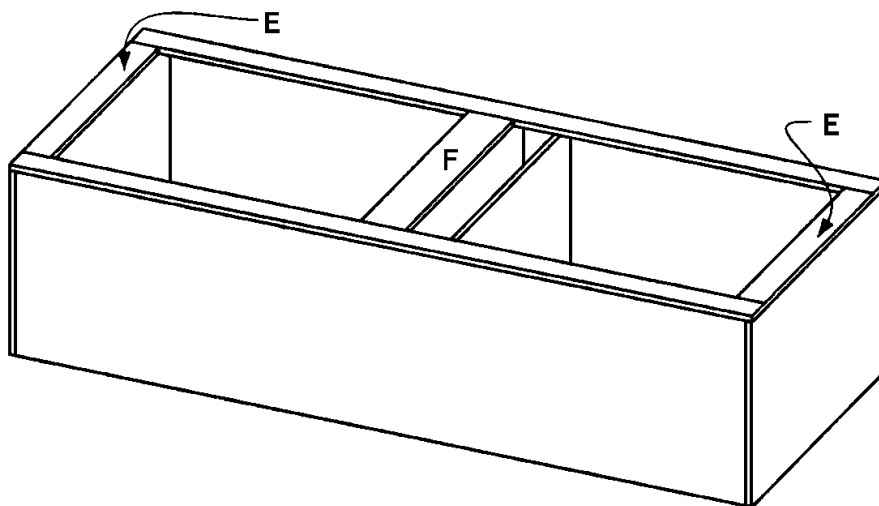

Figure 4
3. Repeat Step 3 to attach the remaining vertical trim (D) to the opposite side (A).
4. Cut two horizontal trims (E) from 1 x 4 pine each measuring 30-1/2 inches long.
5. Apply glue to the plywood edges and attach one horizontal trim (E) over the edges of the top (B) and the first shelf (C), as shown in *Figure 4*. Screw through the horizontal trim (E) into the edges of the top (B) and shelf (C) using 1-1/2-inch screws about every six inches.
6. Repeat Step 5 to attach the second horizontal trim (E) to the third shelf (C) and the bottom (B).